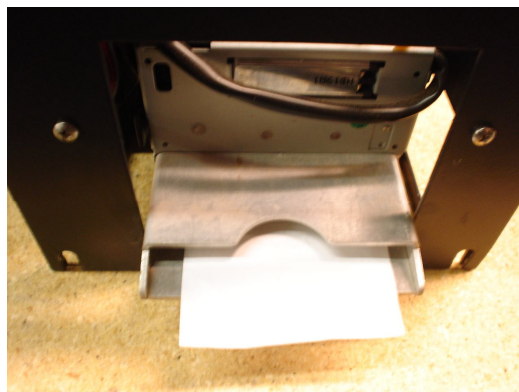

Figure P4: AC7074 Printer – Front View, Paper Fed Through
3. Wrap the paper under the “Paper Guide,” and begin to feed it into the “Paper Slot.” You do not need to fold or cut the paper in any way; it should be left square in the front. Continue to feed the paper into the slot, through the print head, until it passes out through the front of the machine (refer to Figure P4).